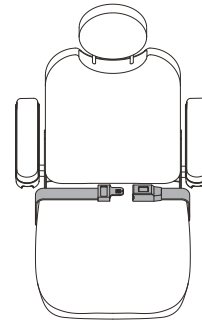

Figure 7. Positioning Belt Adjustment
Your power chair may be equipped with a positioning belt that can be adjusted for operator comfort. **See figure 7.** The positioning belt is designed to support the operator so that he/she does not slide down or forward in the seat. The positioning belt is not designed for use as a restraining device.
1. Once seated, insert the metal tab on one side of the belt into the plastic housing on the opposite side until you hear a click. **See figure 7.**